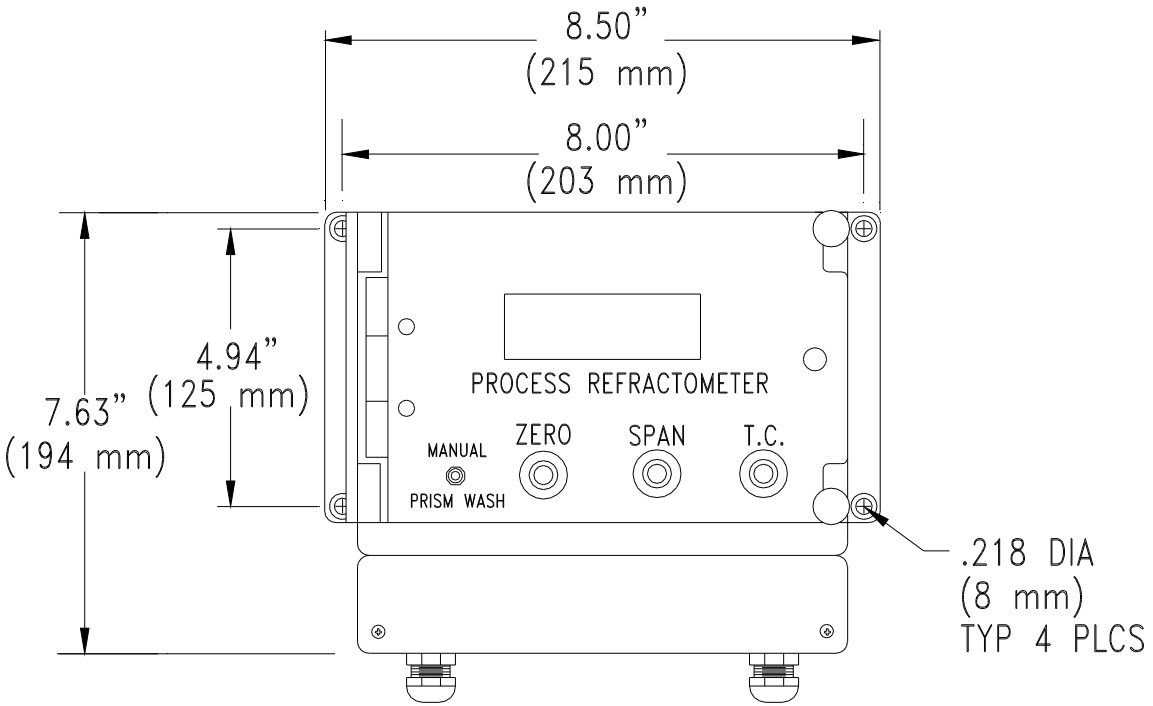

Figure 23. Wall Mount Dimensions
- **WALL MOUNT:** The wall mount enclosure is secured to suitable support (such as a wall) using four 7/32" dia screws, as shown in *Figure 23*.